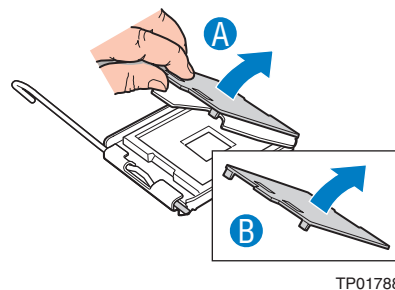

Figure 9. Removing the Socket Protective Cover
9. Grasp the socket protective cover tab and pull away from the load plate (see letter “A” in Figure 9). Remove the socket protective cover and store for future use (see letter “B” in Figure 9).